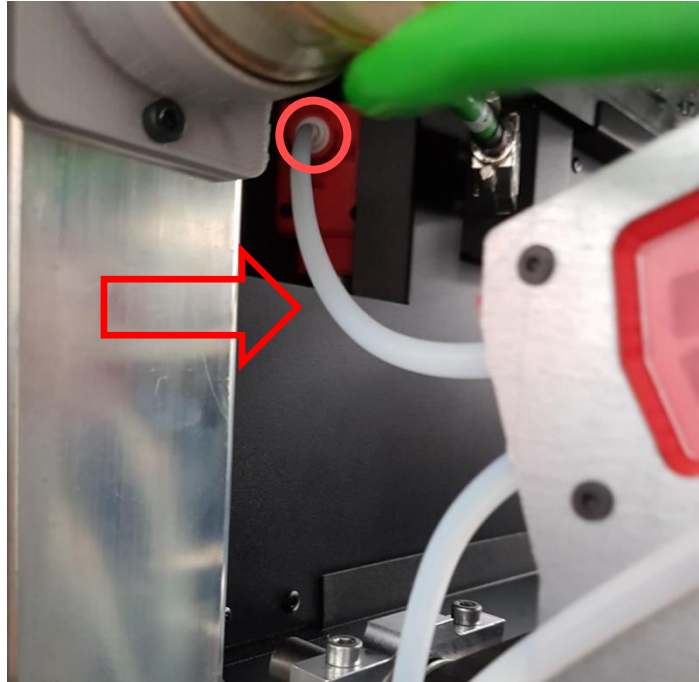

Fig. 128 Bowden tube installation between the FLEX accessory and the Y-distributor
19. Connect the Bowden tube supplied with the accessory to the WLM system of the FLEX accessory and to the free socket of the Y-distributor (Fig. 128). The Bowden tube should be pushed all the way in on both sides (until you feel resistance).